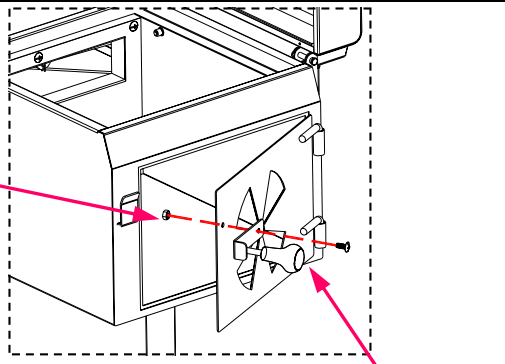

Fig.13
*Locate:* Firebox and Lid Assembly, Firebox Door Handle, (1) M6x15 bolt and (1) Metal lock nut
*Procedure:* Refer to Fig. 13 and Place the Firebox Door Handle on the outside of the Firebox Door and insert an M6x15 bolt through the Door Handle and the Door as shown. Attach an M6 metal lock nut. Tighten with wrench or pliers until the Handle can still move freely.